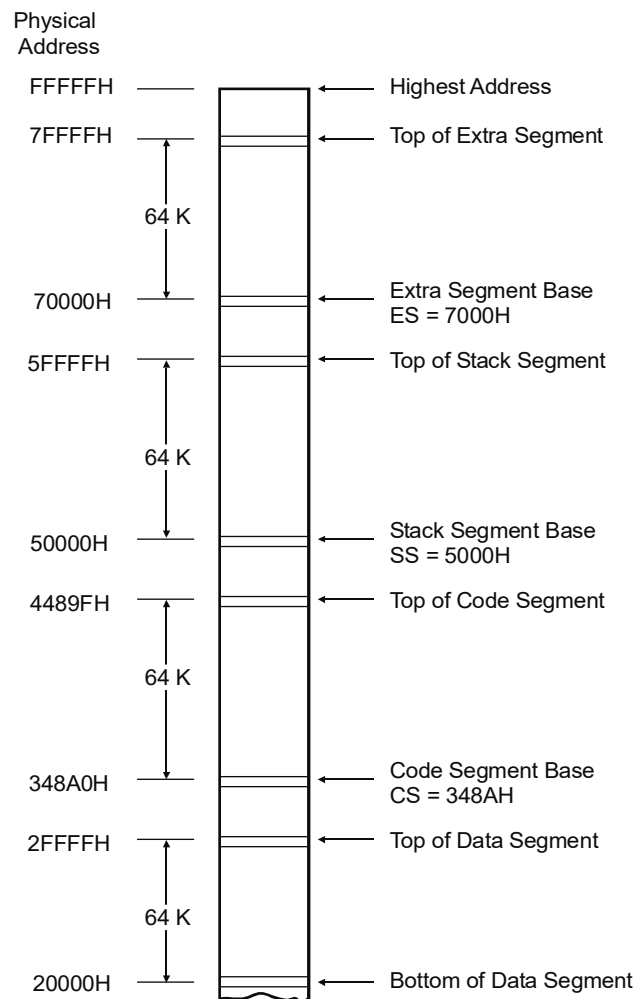

Fig. 5.1 8086 Internal Block Diagram
The internal block diagram of Intel 8086 is as shown in Figure 5.1. It can be divided into two parts: (a) Bus Interface Unit (BIU) and (b) Execution Unit (EU). The two units function independently. The BIU fetches instructions, reads operands and writes results. The EU executes instructions that have already been fetched by the BIU so that the instruction fetch overlaps with execution.